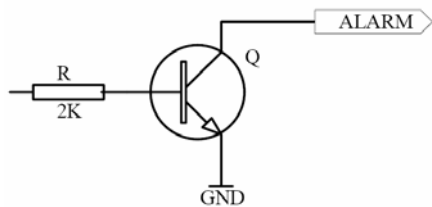

Figure 1
1. **Alarm output interface (See Figure 1)**